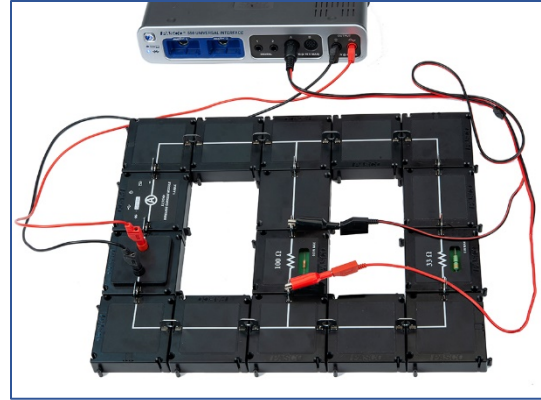

Figure 4: Circuit Diagram 6
6. Move the Voltage Sensor across the $100\ \Omega$ resistor as shown in Circuit Diagram 6 and Figure 4. Repeat step 3, entering the values in the 4th column (V_b) of the table.